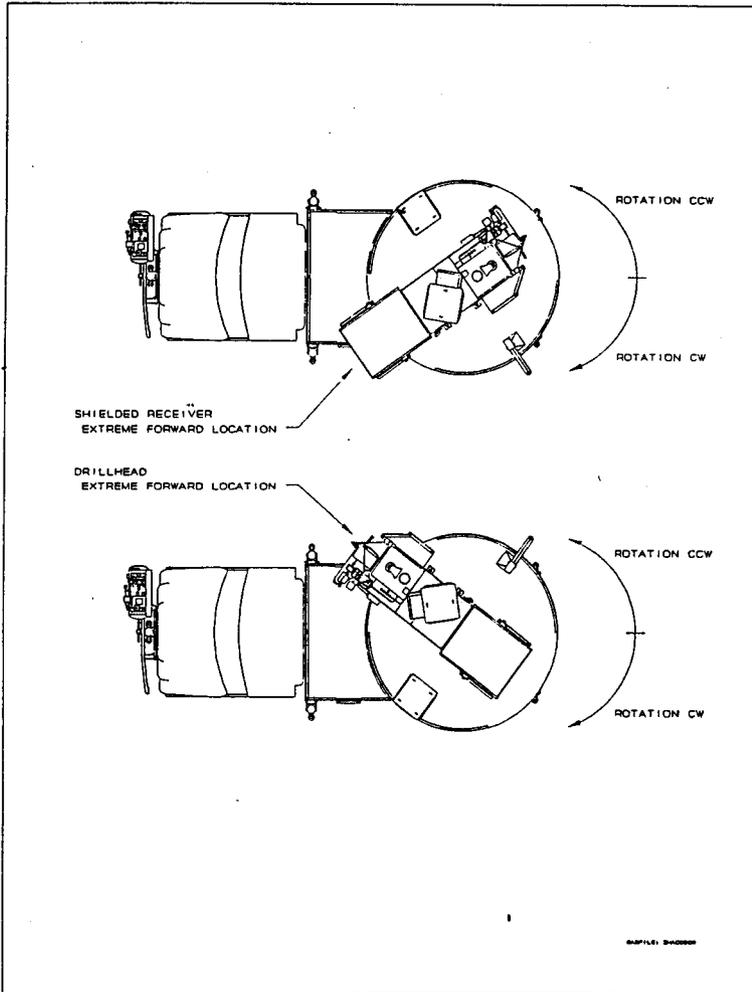

Figure 8) Platform Rotation - Traversed Drill Rig
With shielded receiver fully extended over the rear of the truck, ROTATE the platform CW to position the shielded receiver at the left side extreme forward location (just prior to contact with truck body/platform rails, as depicted at top of Figure 8).
7.3.1.14.1 With drill head fully extended over rear of truck, ROTATE the platform CCW to position the drill head at the right side extreme forward location (just prior to contact with truck body / platform rails, as depicted at bottom of Figure 8).